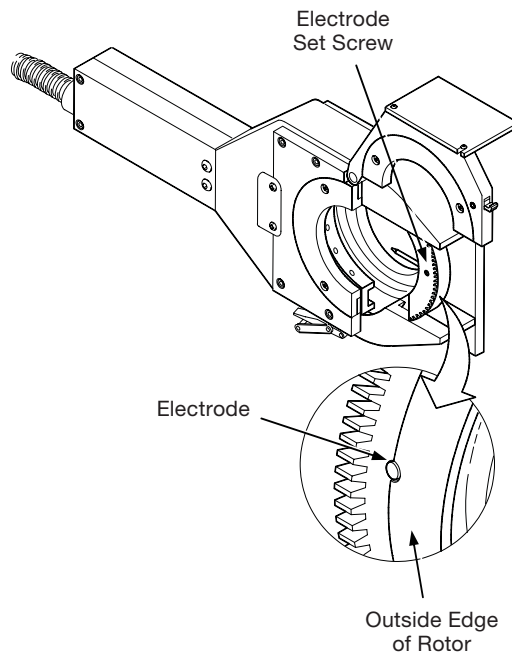

Figure 6 *Electrode Installation*
1. With the weld head in the open position, press **JOG** or **ELECTRODE CHANGE** on the operator panel until the tungsten electrode is in the position shown in Figure 6.